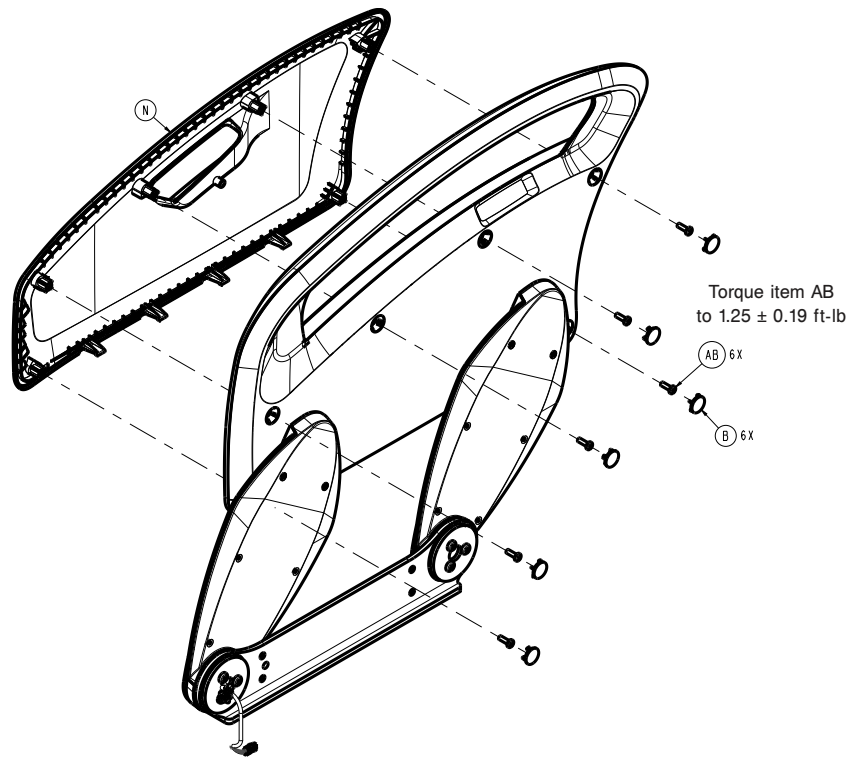

Figure 60 – Replacing the foot siderail hoop
6. Using a pick, remove the six screw covers (B) from the inside of the siderail (Figure 60). Discard the screw covers.
7. Using a T25 Torx driver, remove the six screws (AB) that secure the cover (N) to the siderail assembly (Figure 60). Remove the outer siderail cover.